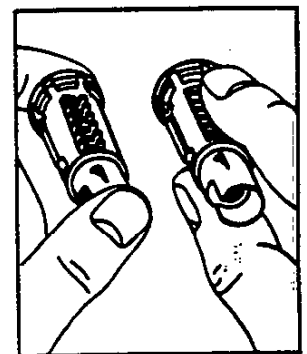

Fig. 10—Checking With Code
2. After all tumblers are in place, check for correctness with the code. Then press tumblers down with one finger (fig. 10).